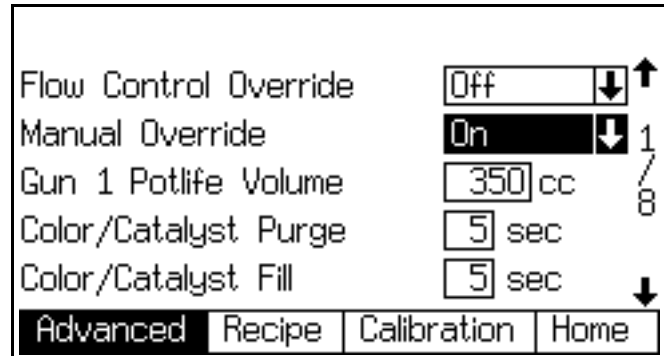

FIG. 83. Advanced Setup Screen 1
3. Go to **Advanced Setup Screen 1** (see FIG. 83). Turn Manual Override On.